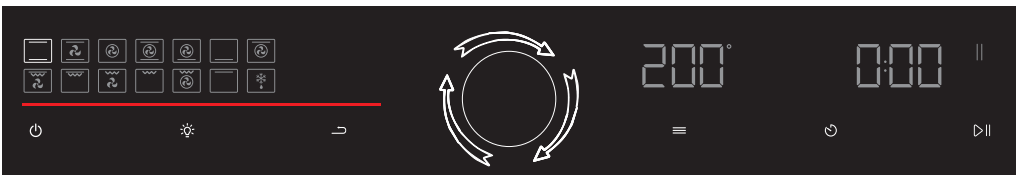

Figure 14
2. In the "Cooking" menu, the display of the active setting first changes to the cooking functions, which can be switched between by pressing the direction keys up or down. (see figure 14) Press the confirm button 1 once to select the desired cooking function.